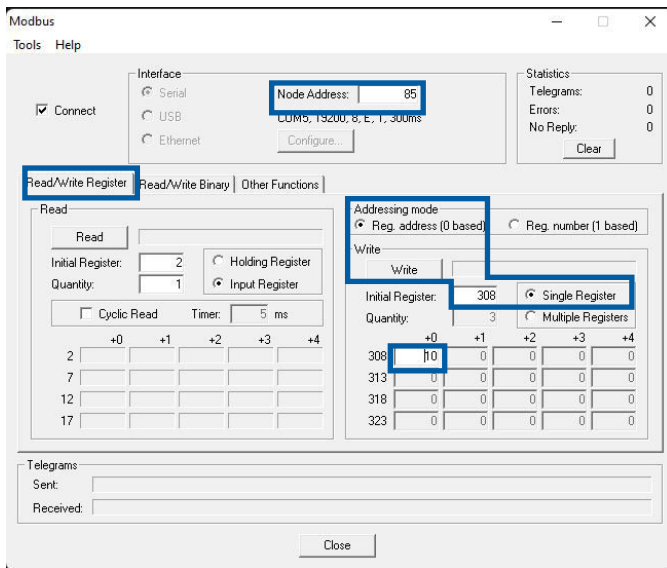

Figure 15 - Write address
- Step 2: Input the new address (for example 10) in register W(06) 0x0134, and click write (Figure 15).